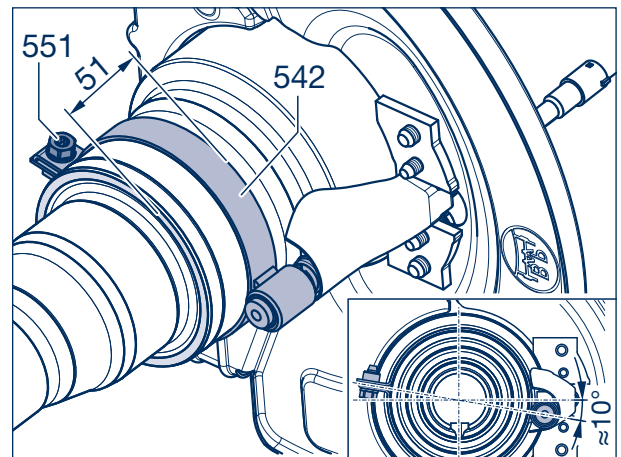

Figure 43
- [35] Align the sensor bracket (542) and mounted sensor radially with the heat protection cover; see detailed illustration Fig. 43).